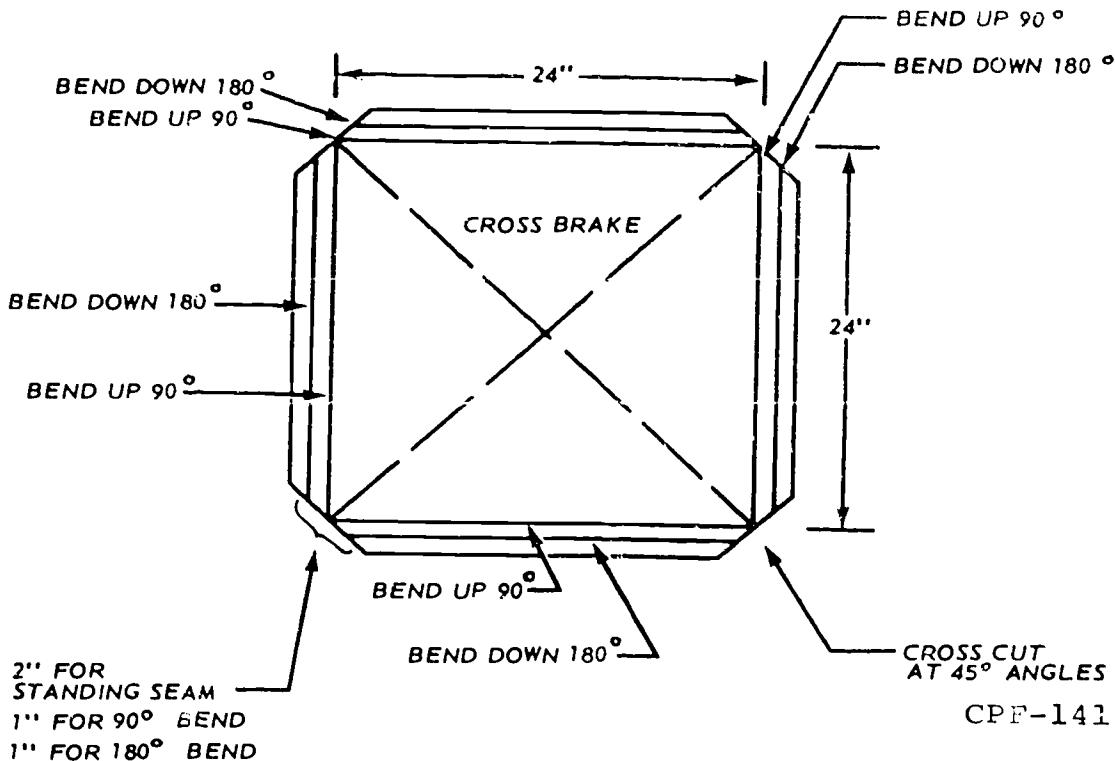
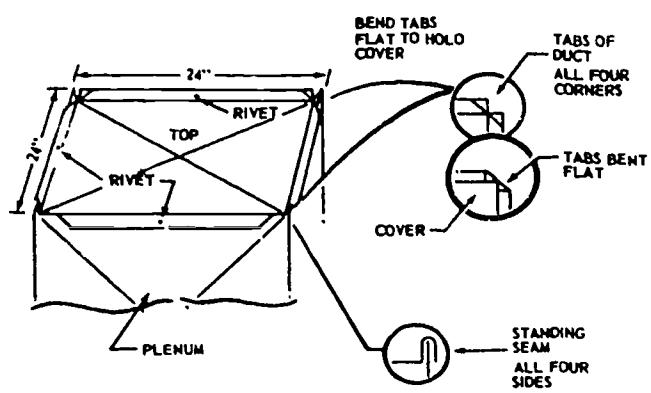

Figure 4-14. Pattern for top of plenum.
Figure 4-15. Standing seam used with plenum top.
*Plenum top and duct end patterns.* The pattern for the top of the plenum is shown in figure 4-14. This pattern, except for its dimensions, is the same as the patterns for the end covers of trunklines A, B, and C. The standing seams in these pieces are shaped like the seam in figure 1-1 B-1. With standing seams on all four sides, the 24" x 24" plenum top fits tightly over the 24" x 24" opening in the plenum, as shown in figure 4-15. When the top is installed, the standing seam acts as a stiffener and strengthens the plenum. In figure 4-14 you can see how 2 inches are allowed on all four sides for the standing seams, and the instructions for bending, corner notching, and cross braking are given. This pattern is developed by the parallel line method of layout.
The corners of the patterns for the plenum top in figure 4-14 are cut at  $45^\circ$  angles. See how a single cut at each corner makes the slant notches for each adjoining side of the pattern plus slant notches for each 1-inch portion of the standing seam. Make these slant notches with squaring shears or straight snips.
*Plenum top and duct ends.* You form the top for the plenum and the ends for the three trunklines by cross braking and making the bends indicated in figure 4-14 with a cornice brake. These components do not need to be assembled because they are in one piece.